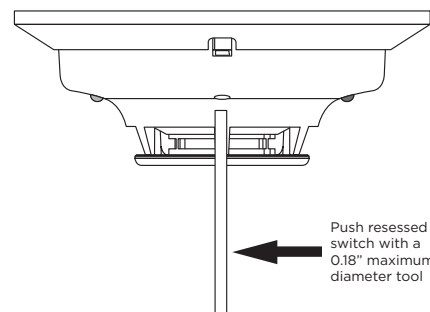

Figure 6: Sensitivity Testing the 2W-BLX/2WTBLX
1. Insert a small screwdriver or allen wrench (0.18" max.) into the test switch opening located on the detector housing. Push and hold (See Figure 6).